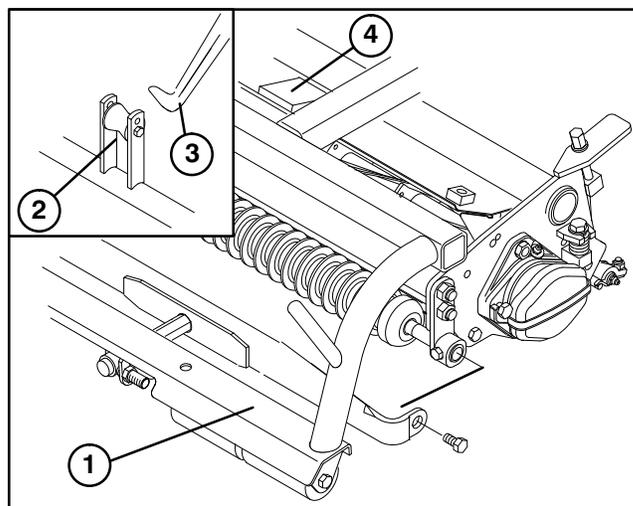

Figure 9
2. Slide the cutting unit under the pull frame while hooking the lift roller onto lift arm (Fig. 9).
3. Mount traction unit pull frame to cutting unit with (2) shoulder bolts.
4. Affix a rubber pad to each cutting unit shield, positioning it directly under lift arm (Fig. 9).